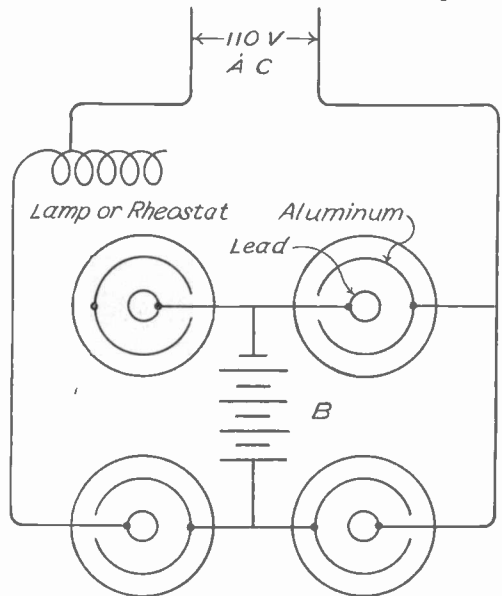

FIG. 3. CONNECTIONS OF RECTIFIER
The rectifier is now complete, but it remains to be connected up properly as shown in Fig. 3. A rheostat should be used in series with the alternating current and the rectifier. For purposes requiring little current a 16 candlepower lamp can be used as a rheostat.
In Fig. 3 the rectifier is shown as charging a small battery (B). The battery may, however, be replaced by any small current consuming device requiring direct current. With 110 volts alternating current sent into the rectifier direct current of about 80 or 90 volts is obtained.